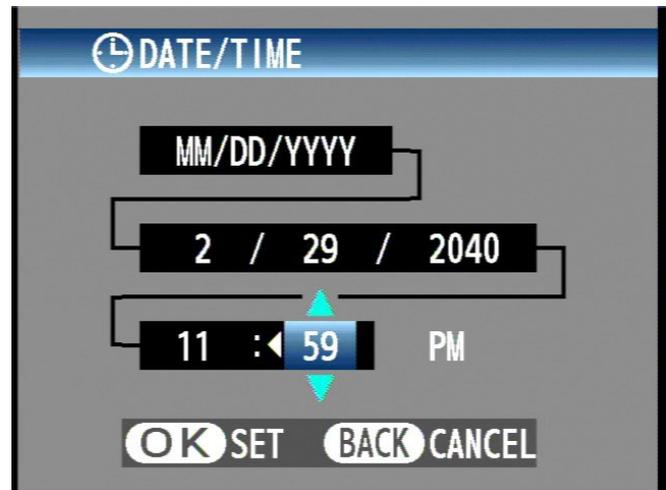

fig.1
4. The DATE/TIME setting is matched as follows.(fig.1)